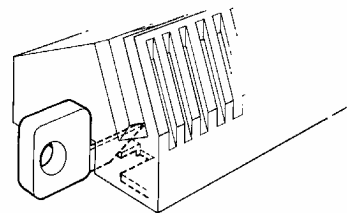

Figure 5.
- To release the reader assembly from the reader base plate, insert the latch release tool into the reader assembly release slot, making sure the tip of the tool rides on top of the latch. When fully inserted, the tip of the tool will depress the latch sufficiently to clear the release stop. FIG 5.